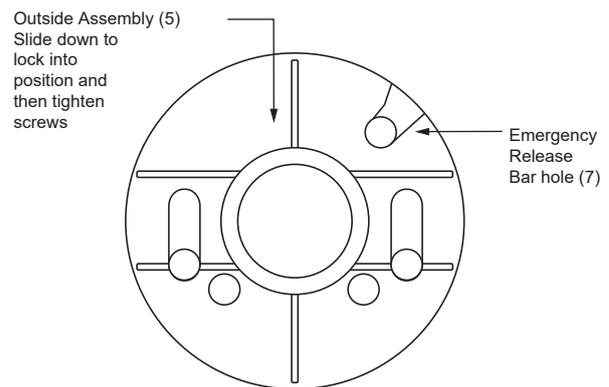

Fig. 3.
6. Ensure that 'emergency release bar hole' (7) is facing upwards and slip the keyholes in the 'outside assembly' (5) over the protruding screw heads and slide downwards. See fig. 3.